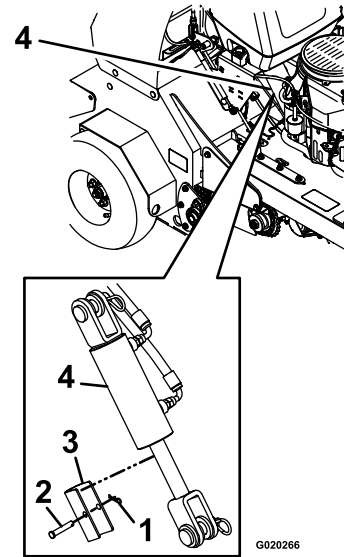

Figure 5
10. Remove and retain the hairpin, clevis pin, and cylinder stop as shown in Figure 5.